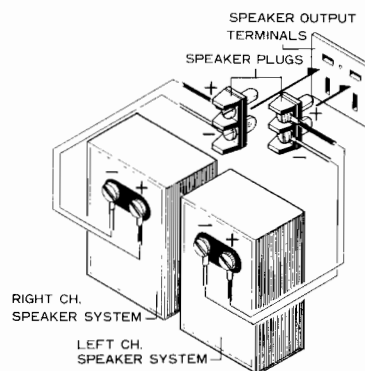

Fig. 3
- First remove the speaker connector plugs from the accessories bag and then connect the speaker leads as shown in Fig. 3. Be sure to match the speaker and plug polarities.
- After the plugs are connected, insert the one for the right channel in the left side of the SPEAKER OUTPUTS (A) panel on the rear of the unit. Connect the left channel to the right side of this panel as shown in Fig. 3. (Refer also to the connection diagram on Page 4.)